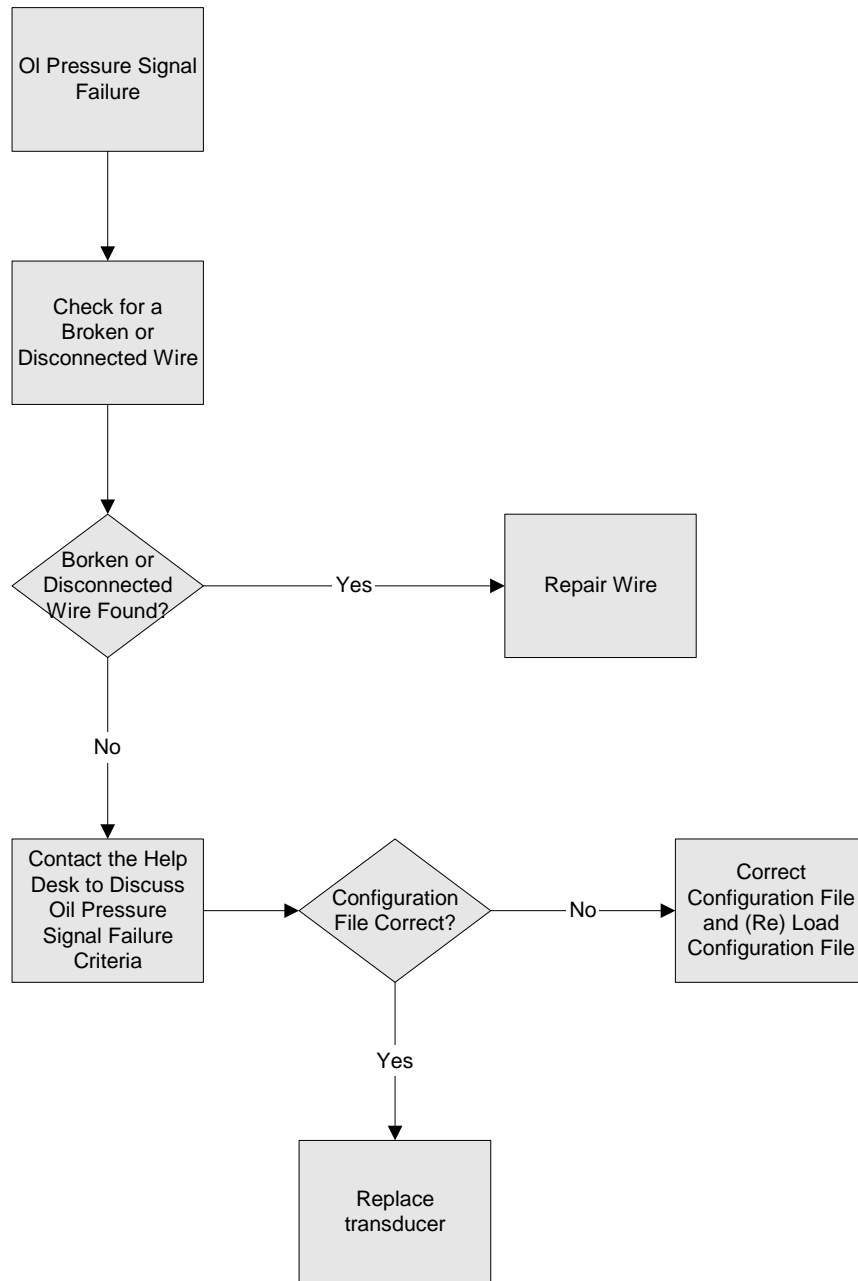

Figure 45: Oil Pressure Signal Failure Troubleshooting
- b. Transducer Signal Failure – Refer to Figure 45.